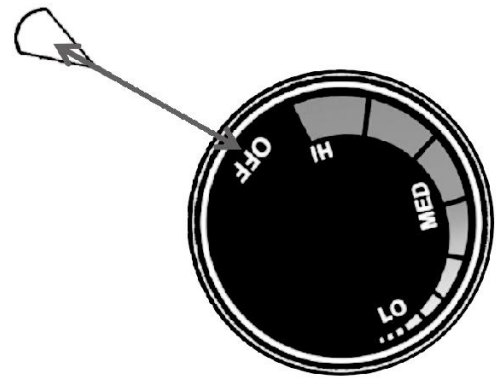

Fig. 1
1. Make sure the OFF symbol on the Temperature Control Dial (part #7b) is fully turned to the light Indicator location. (Fig. 1). The light should not be illuminated.
4. Adjust the setting on the Temperature Control Dial to desired temperature level. (Fig. 1). Settings on the Temperature Control are indicated by temperature marks on the circular dial, including the 'OFF' position marking. The light indicator will illuminate while the unit is heating, and will switch on and off during the cooking cycle. The unit is usually packed with the Temperature Dial set to the "OFF" position.